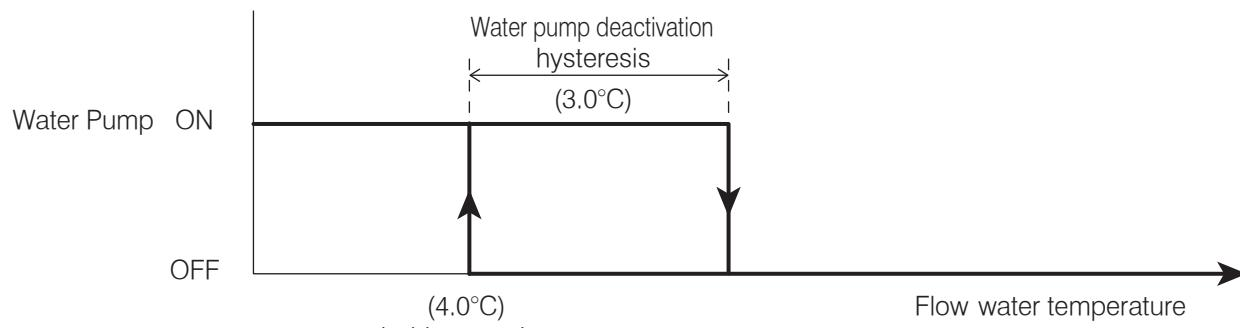

Figure 8-18: Frost protection (flow water temperature) - water pump
- Flow water temperature - refer to Section 8.4.2 and Figure 8-18.